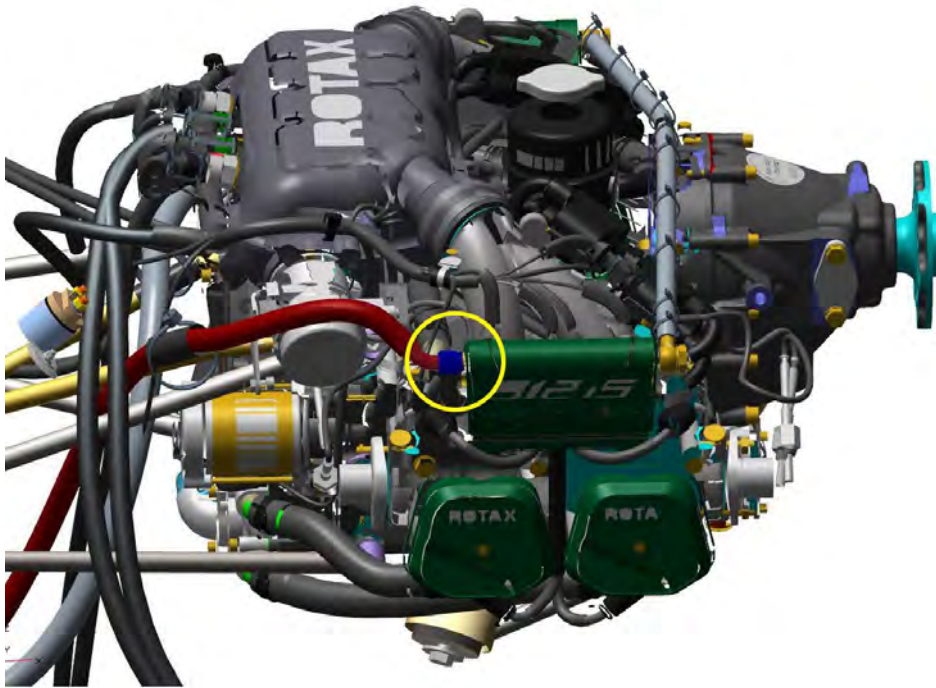

FIGURE 11-1
3. Use an 11/16 wrench to disconnect the fuel supply hose at the fuel rail on the engine's left-forward corner (circled in Figure 11-1). Catch any fuel that drips out.